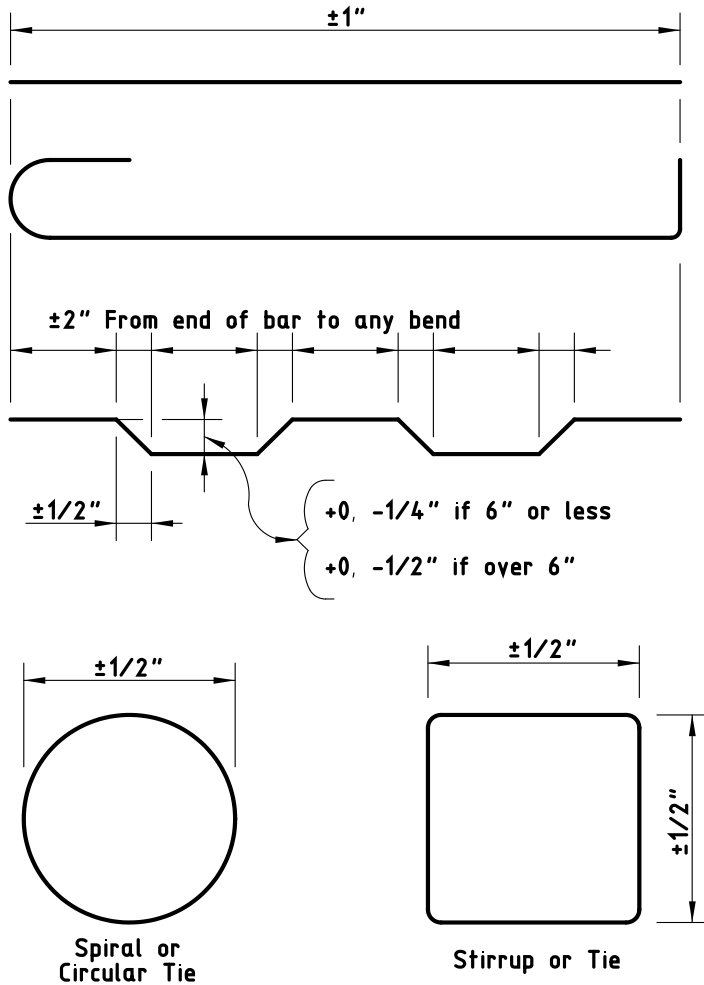

Figure 1
- A. Fabrication tolerances for bars are shown in Figure 1.